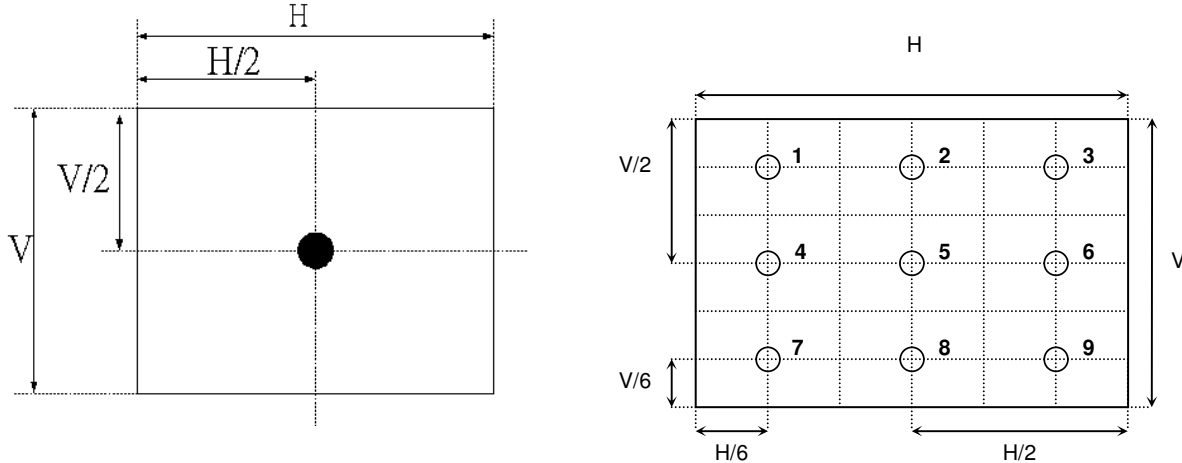

Fig.4-2 Optical measurement point
2. Surface luminance is luminance value at point 1 across the LCD surface 50cm from the surface with all pixels displaying white. From more information see FIG 4-2. When $I_{BL} = 32 \text{ mA}$, $L_{WH} = 350 \text{ cd/m}^2$ (typ.) $L_{WH} = L_{on1}$, Where L_{on1} is the luminance with all pixels displaying white at center 1 location.